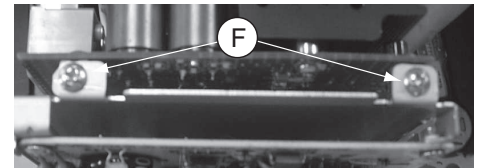
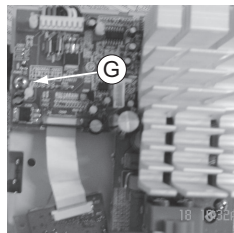

Figure 7
Figure 8
- 2) Loosen 2 screws "F" as shown in figure 7, and loosen 1 screw "G" on the top of Wireless Main Board as shown in figure 8 to remove the Wireless Main Board.